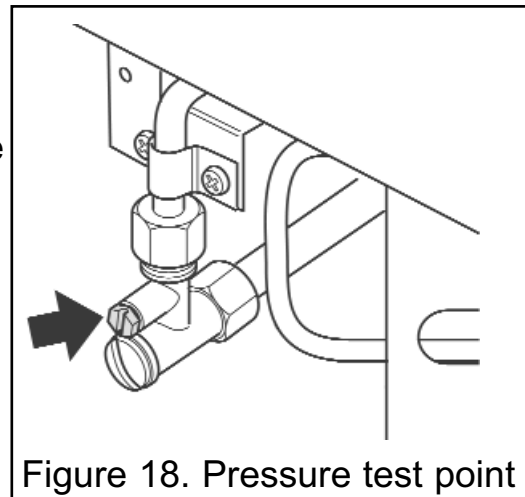

Figure 18. Pressure test point
1. Check the inlet pressure by fitting a pressure gauge at the test point. The test point is on the inlet 'T' connector (See figure 18). Check the pressure with the appliance alight and set at maximum output.